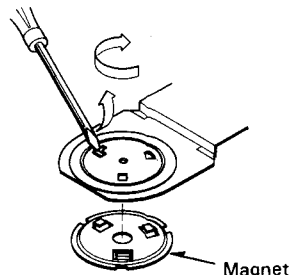

Fig. 8
4. To remove the magnet of disc clamber, raise the claw of magnet fixing plate and turn it clockwise. [Fig. 8]